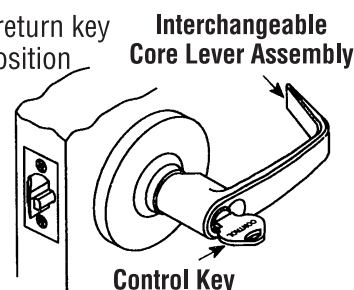

Figure 5
- C. Insert core into lever and return key to its original horizontal position locking core in place. See Figure 5.
- E. Control key has no further use in lockset installation and must be safeguarded for return to Security personnel when installation is complete. See Figure 5.